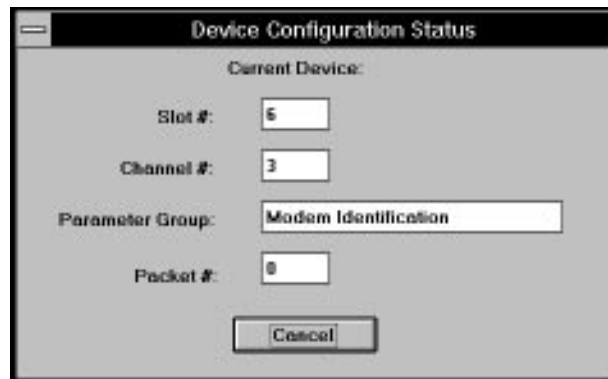

Figure 6-3. Device Configuration Status Window
5. Click on **OK** at the bottom of the Configuration Window. The settings from the card you have specified in the Load From window are sent to all the cards you selected before opening the Configuration Window. A Device Configuration Status window (Figure 6-3) is displayed as these settings are sent.